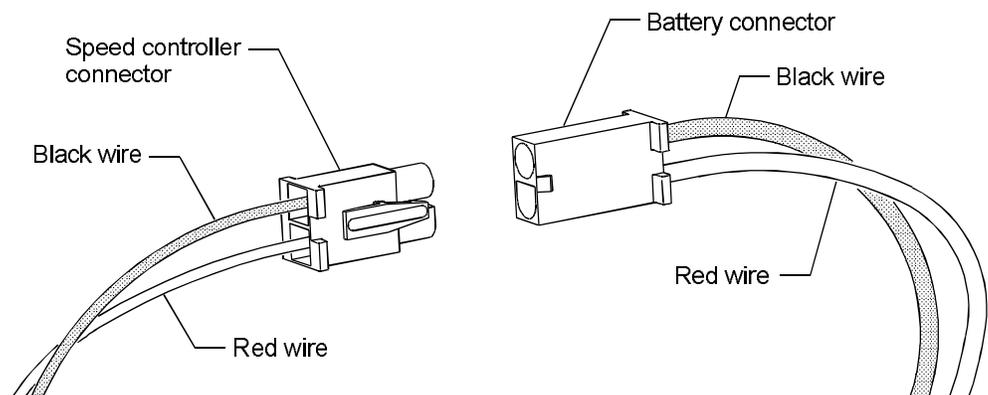

Figure 12-3.
- ❑ 12. Before plugging the speed controller into your flight battery refer to Fig. 12-3. Make sure that the red battery wire will connect to the red controller wire, and the black battery wire will connect to the black controller wire.